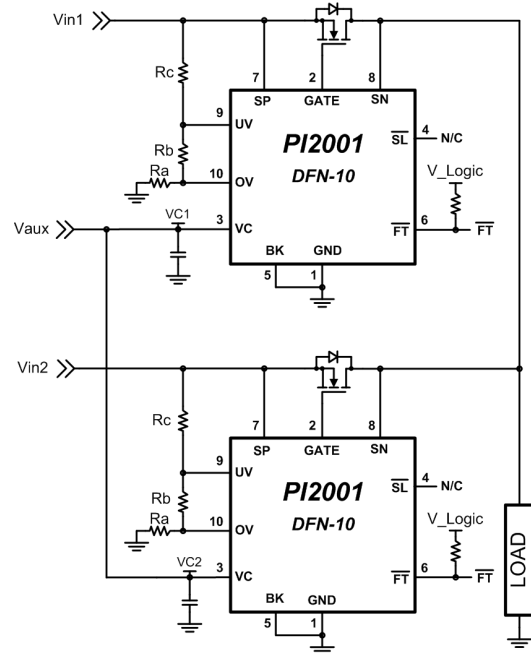

Figure 15: PI2001 in high side Active ORing configuration
1. A single PI2001 with suitable external MOSFET for each redundant 3.3V power source should be used, configured as shown in the circuit schematic in figure 15